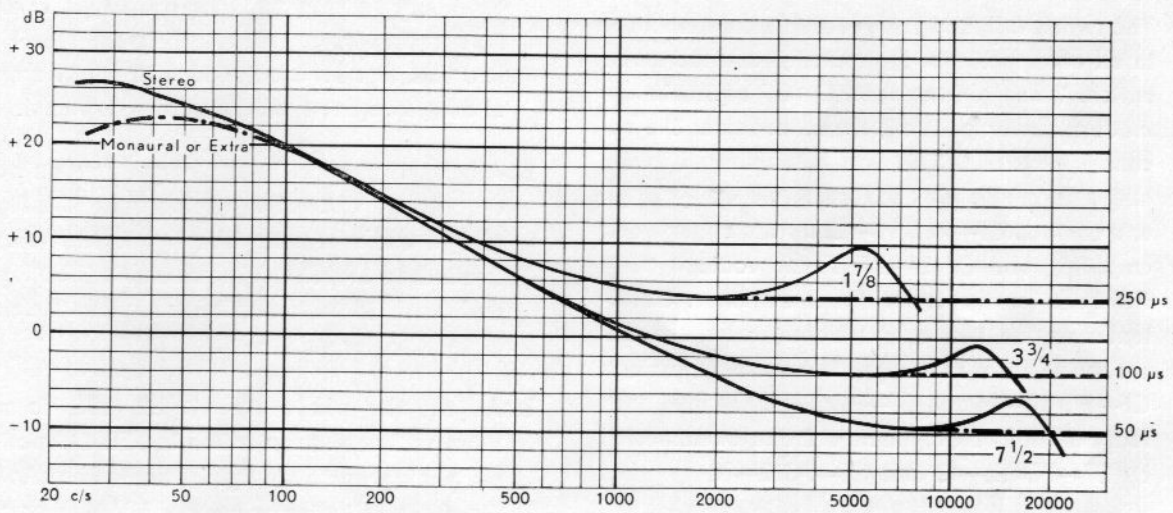

Fig. 4.
1. Adjust the oscillator frequency. A radio receiver tuned to 200 kc/s is used as an indicator. The antenna input terminals must be supplied with a signal of 200 kc/s (Droitwich or a crystal oscillator) and the oscillator coil L3 (22.1) of the tape recorder, see circuit diagram Fig. 4 and foto S.M. Fig. 21, is adjusted so its third harmonic of 66⅔ kc/s beats with the 200 kc/s signal.
2. The frequency response of the two amplifiers is checked at all three speeds. The response should correspond to the curves in Fig. 4. During these measurements the generator is connected across 1000 ohms in series with the heads and the V.T.V.M. across the corresponding output terminals. The generator voltage is regulated so that the output voltage does not exceed 3 volts at frequencies with max. gain (30—60 c/s). The stereo-monaur. switch is set to STEREO position and the loudspeaker switch (30.7) in the middle position. The gain at 1000 c/s with the volume control at max. is approx. 67.5 dB (2400 times) at 7½ ips, approx. 70 dB (3150 times) at 3¼ ips and approx. 73.5 dB (4750 times) at 1⅞ ips, measured from the head to the output terminals. Also check that the output voltage increases 10—12 dB at 100 c/s when the bass switch is set in position BASS in both amplifiers and at all speeds.